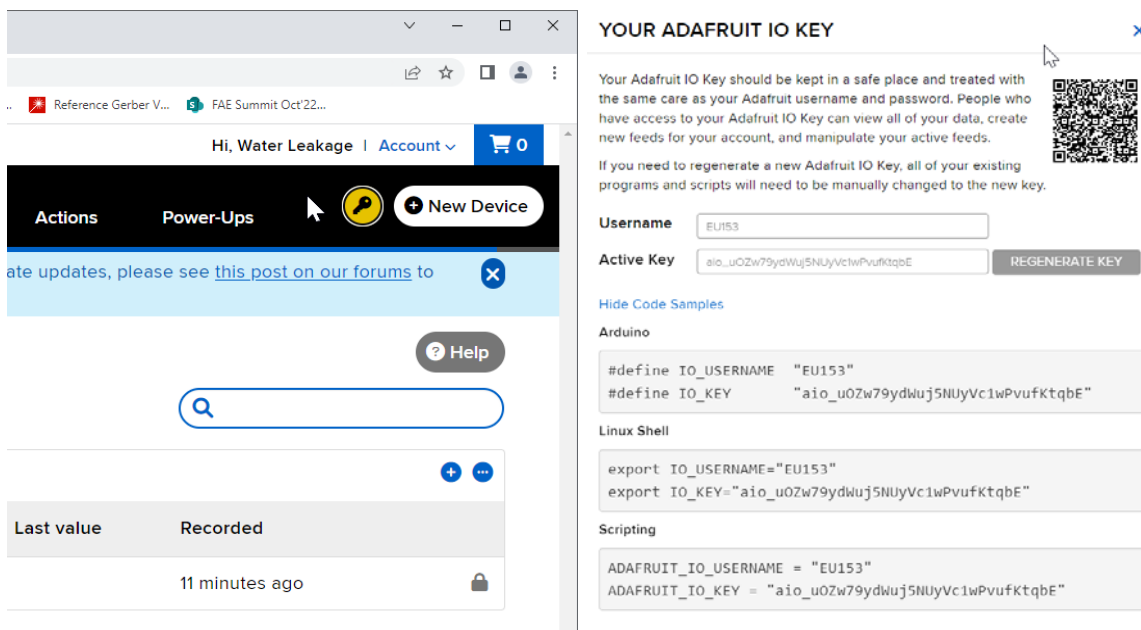

Figure 8. Adafruit IO MQTT broker username and password
2. MQTT borker/server credentials can be found by clicking on key in yellow background as it is shown in Figure 8. Active Key is password.